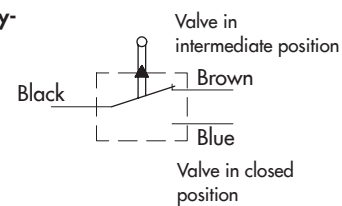

Fig. 5: Manual adjuster Ma, manual adjuster with momentary-contact switch MaS
A manual adjuster (see Fig. 5) is used with a Do2 in place of the second connection of a thermostat.
The manual adjuster Ma is mounted at connection c (thermostat connection, see Fig. 5). Turning the handwheel (8.1) causes the coupling pin (8.2) to extend or retract. As a result, it acts over the lever (6) on the coupling pin (5) and plug stem (10.1).